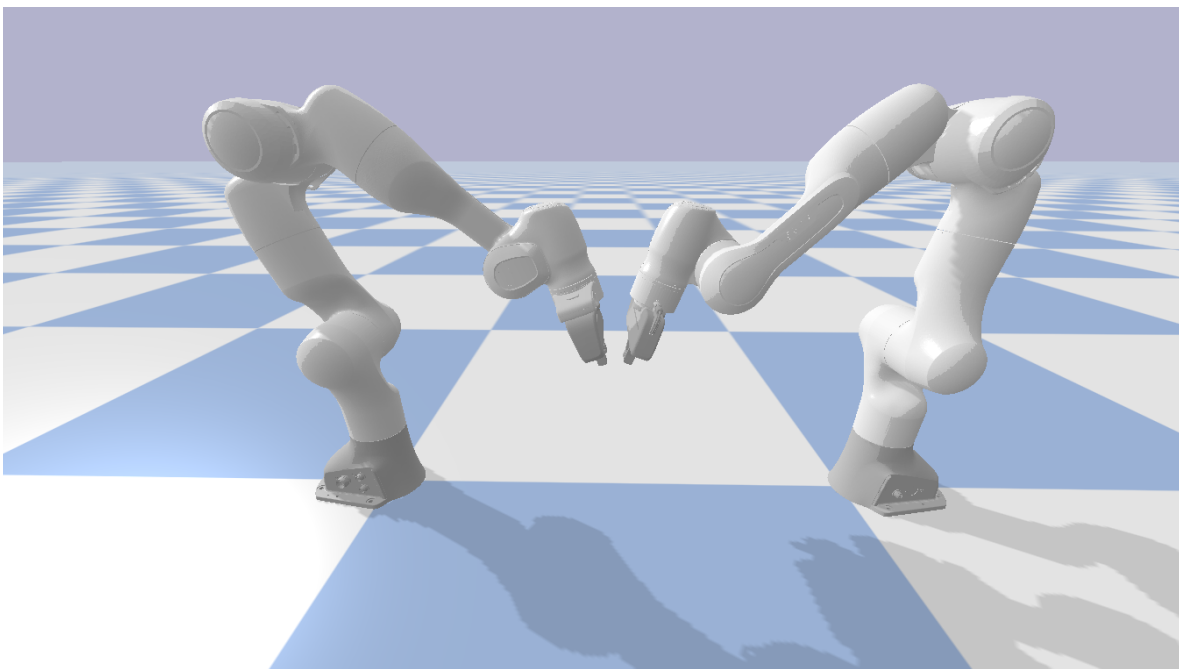

Figure 3: Robot configurations for grasping the object
2. The first phase foresees to move the tool frames to the grasping points, by implementing the *Tool move-to* equality task for both manipulators. **N.B Each manipulator has his own Task Priority Inverse Kinematic Algorithm.** Define the goal frames for each manipulator such that their origin corresponds to the grasping points. **HINT:** the position of the grasping points can be computed by knowing the origin of the object frame wO_o and the object length l_{obj} . The goal orientation of the tool frames is obtained by rotating the tool frames 20 deg around their y-axis; the manipulators should reach the configuration depicted in Figure 3.